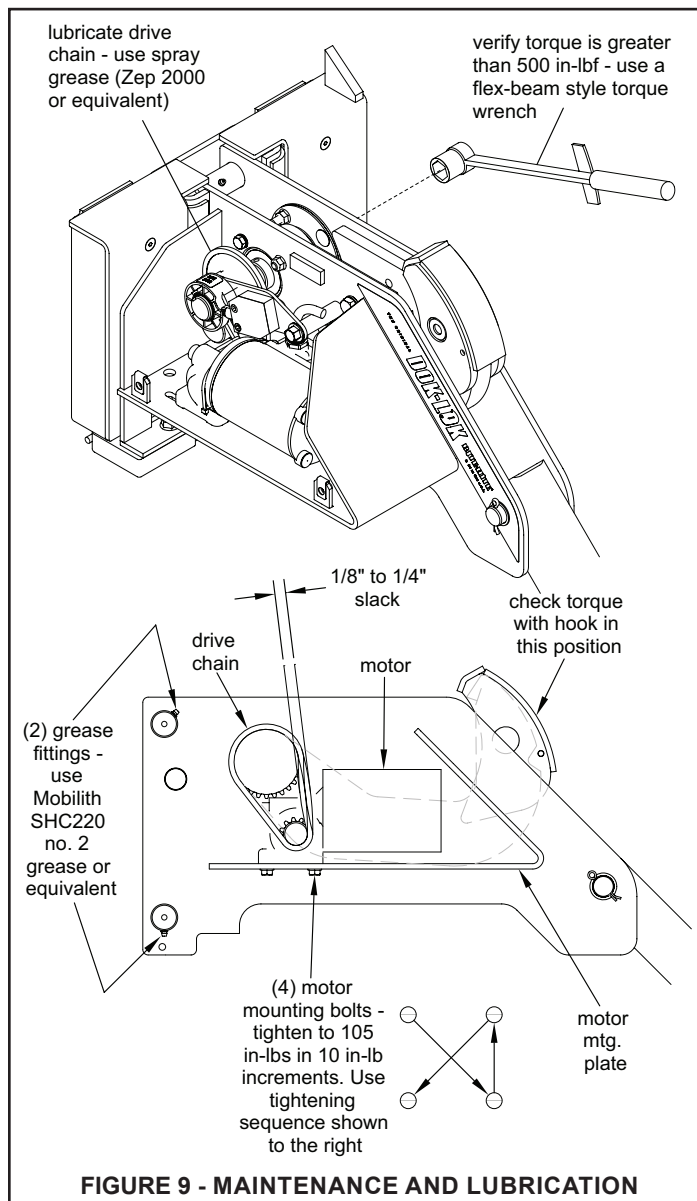

FIGURE 9 - MAINTENANCE AND LUBRICATION
2. Check and tighten, if necessary, motor drive chain. To tighten see Figure 9, page 14.
The drive chain should not have more than 1/4" slack. Refer to Figure 9. To tighten chain:
1. Open motor enclosure and loosen the four (4) motor mounting bolts.
2. Pry the motor assembly forward, in the slotted holes, until the chain is tight with proper alignment between sprockets. Hold in this position and tighten the four (4) motor mounting bolts to 105 in-lbs in increments of 10 in-lbs. Tighten in pattern shown. See Figure 9.